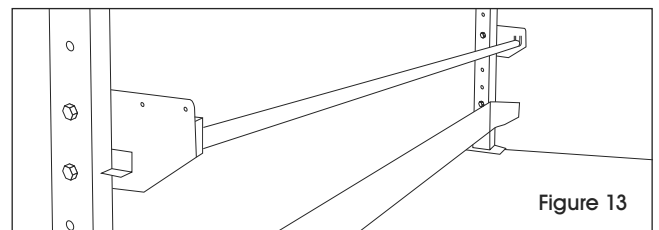

Figure 13
1. Line up reel holder brackets (3) with uprights at desired height.
2. Secure to uprights with four M6 x 40 mm hex bolts and flange nuts. (See Figure 13)